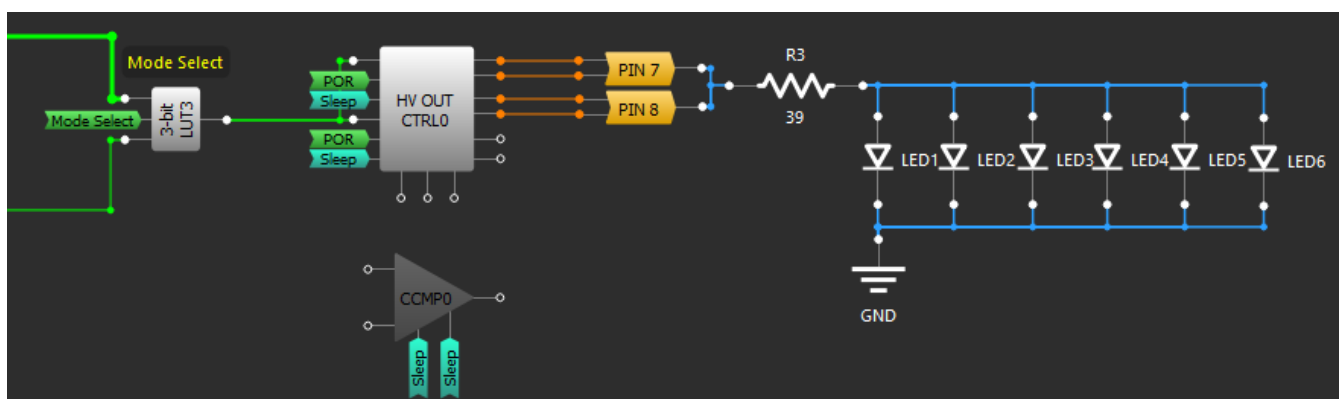

Figure 6 HV OUT Control
- Figure 6 HV OUT Control5
When the Mode is selected, the LUT3 output signal goes to HV OUT CTRL to drive the 6 LEDs connected in parallel. It is configured as Half-Bridge in Pre-Driver Mode (Figure 6) to provide the necessary current of 120 mA.